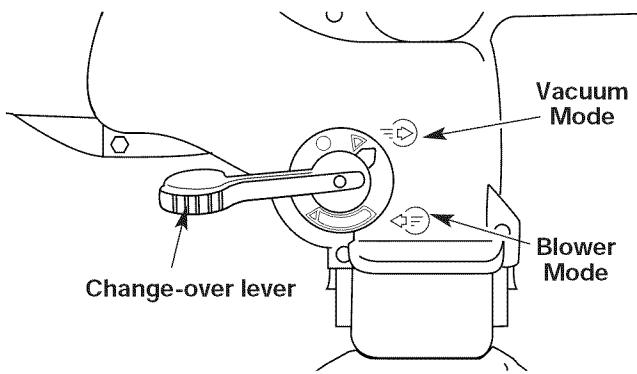

Fig. 17
- 2 Set the blower/vacuum mode change-over lever to the down position (Vacuum Mode) (Fig. 17).